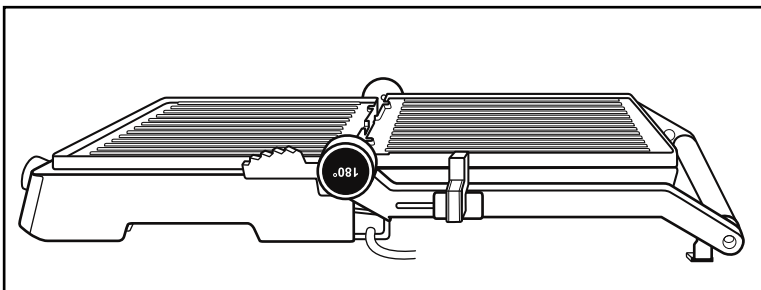

Fig. 2
- 3) The hotplates ❶ are now positioned next to each other and can be used as a table grill (Fig. 2).